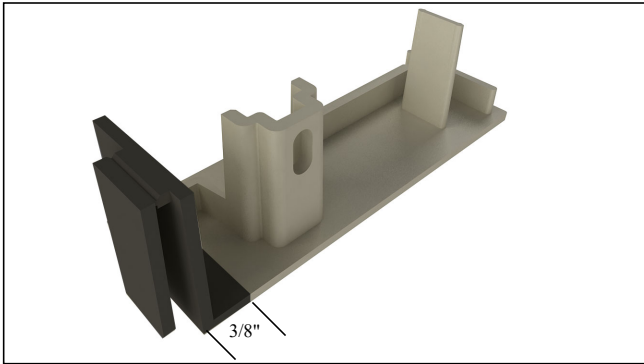

Figure 56
1. Modify one left hand and one right hand end caps by removing shaded area with utility scissors to fit into the bottom of the jamb pieces. Remaining end caps will not be modified. See *figure 56*.